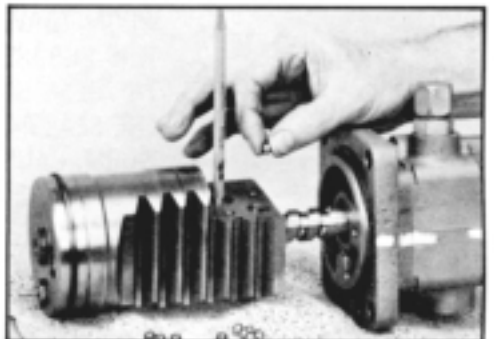

Figure 131
27. Insert the eraser end of a pencil into one ball return guide hole in the rack piston (39) as far as it will go. Alternately insert one large ball (34A) then one small (spacer) ball (34B) into the other ball return guide hole while slowly turning the worm shaft (23) to work each ball down the same ball groove path on one side of the worm shaft and up and around toward the other ball return guide hole. When 16 balls are inserted, remove pencil. A ball should be visible at each ball return guide hole. SEE FIGURE 131.